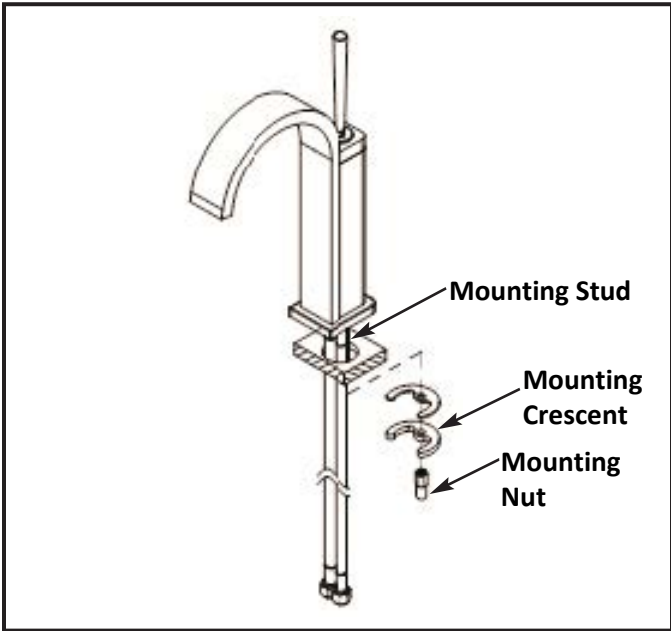

Figure 1
1. Insert hoses through deck hole one at a time, and secure spout into place with MOUNTING STUD, MOUNTING CRESCENT and MOUNTING NUT. **See Figure 1.**